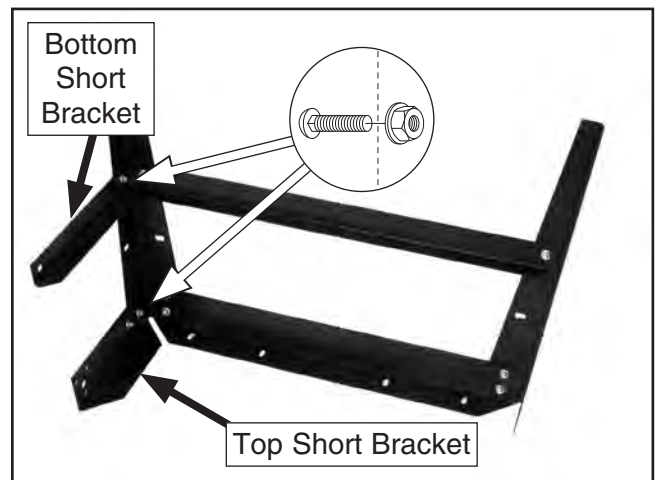

Figure 6. Top and bottom short brackets secured to stand leg assembly.
6. Mount top short bracket to stand leg assembly with (2) M8-1.25 x 15 carriage bolts and (2) M8-1.25 flange nuts, as shown in **Figure 6**.
7. Mount bottom short bracket to stand leg assembly with (1) M8-1.25 x 15 carriage bolt and (1) M8-1.25 flange nut, as shown in **Figure 6**.